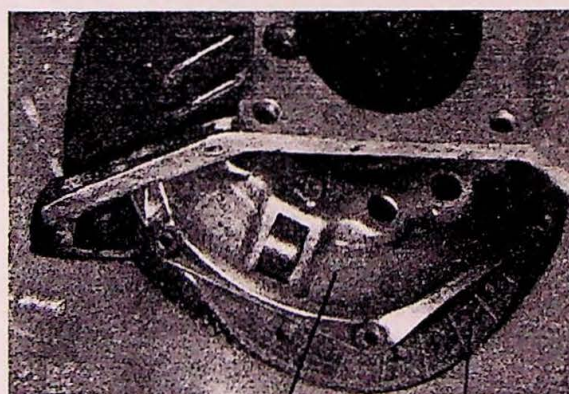

Fig. 4.
7. Loosen the six clutch screws (12) transversely and gradually to avoid breakage. Remove the screws. Hold the clutch so as not to let it fall. Clutch and driven plate can then be removed downwards, fig. 4.